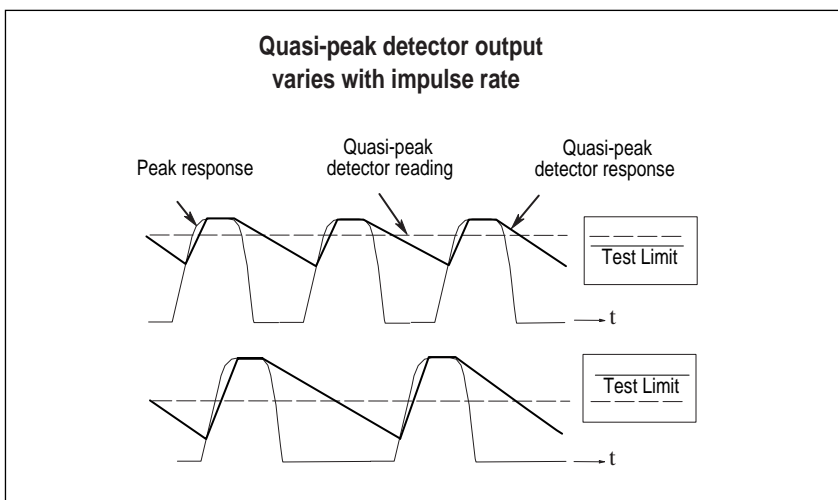

Figure D-2. Quasi-peak detector response diagram.
Most radiated and conducted limits are based on quasi-peak detection mode. Quasi-peak detectors weigh signals according to their repetition rate, which is a way of measuring their annoyance factor. As the repetition rate increases, the quasi-peak detector does not have time to discharge as much resulting in a higher voltage output. (See Figure D-2 below.) For continuous wave (CW) signals the peak and the quasi-peak are the same.